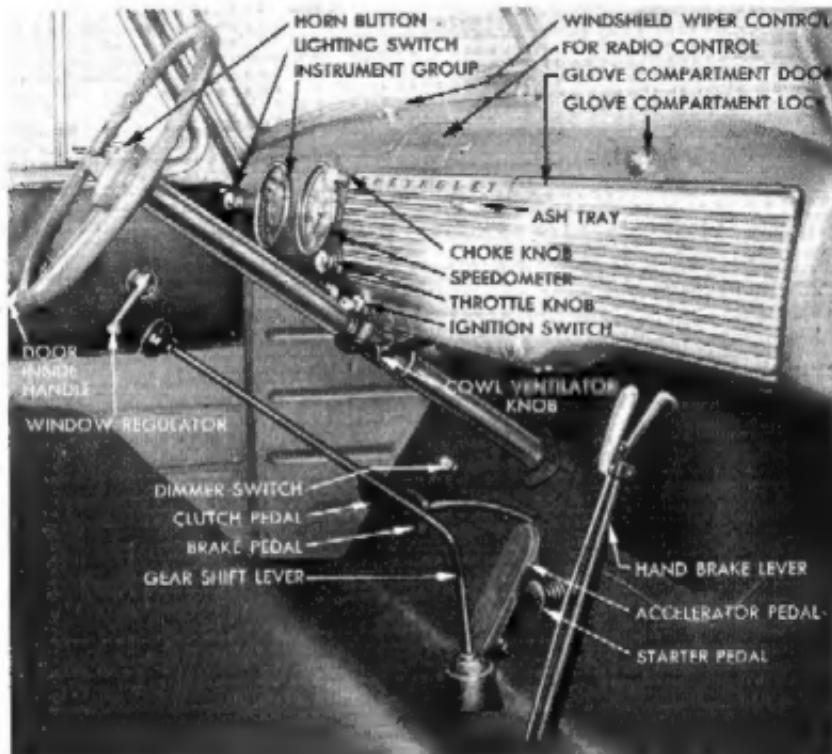
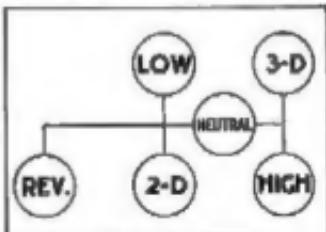
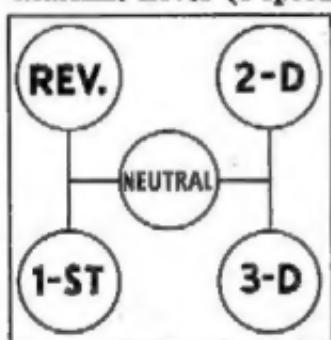

Fig. 2—Controls and Instruments—1-1/2 and 2 Ton
Fig. 11—Four Speed Transmission Shifting Diagram
Fig. 12—Three-Speed Transmission Shifting Diagram
**Parking Brake.** On all 1 Ton (except Forward Control),  $1\frac{1}{2}$  and 2 Ton, except C.O.E., the parking brake is hand operated with lever extending up through floor to the right of the gear shift lever with the grip just below the instrument panel (fig. 2). Hand brake lever on C.O.E. is to the left of the gearshift lever. Pulling this lever back applies the rear wheel brakes on 1 ton
**Gearshift Lever (4-speed Synchro-mesh Transmission)** extends to the left and back from transmission cover dome at center of floor (fig. 2). This lever is used to shift the transmission gears to the desired position. Figure 11 shows the lever knob positions when the transmission is in neutral, reverse and the four forward speeds. To shift the transmission into any of the forward speeds, disengage the clutch, move the lever across neutral to right or left as desired, and then forward or back into gear.
Figure 12 shows the gearshift pattern in neutral, reverse and three forward speeds. To shift into any gear position, disengage the clutch, move the shift lever up
2. Move gearshift lever into low gear position. (If 4-speed transmission see Figure 11, or if 3-speed transmission see Figure 12.)
1. Depress clutch pedal and release accelerator at the same time. Move the shift lever into neutral and then to the next higher gear. See shifting diagrams, Figures 11 and 12.
2. Move shift lever across neutral to left, against the spring tension as far as it will go. Move lever back into reverse (fig. 11).
2. Raise shift lever up across neutral and forward into reverse position. (fig. 12).